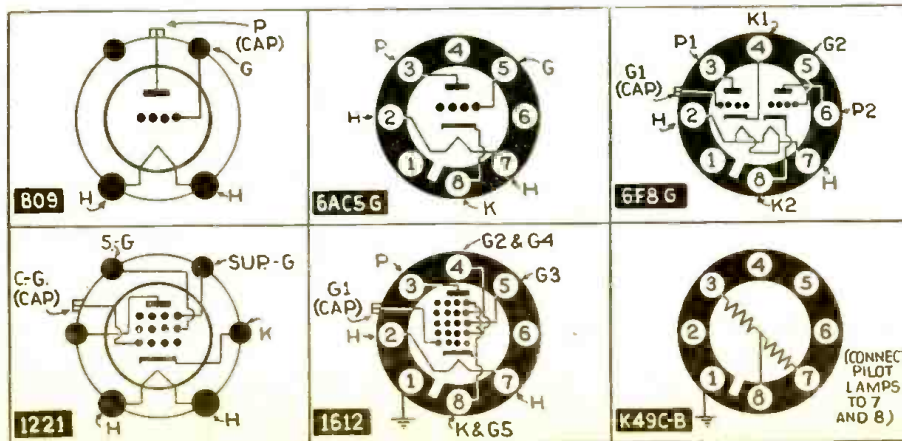

Fig. 1. Although the symbols are somewhat conventional the characteristics differ widely.
**809 R.F. Power Amplifier, Oscillator, and Class B Modulator Triode.** The 809 is a 3-electrode transmitting tube of the high- $\mu$  type for use as a (1) radio-frequency amplifier, (2) oscillator, or (3) class B modulator and (4) audio-frequency amplifier. (See Fig. A; terminal connections are given in Fig. 1.)
Fig. 1. Socko!—A bright young OM gets an idea on how to enliven the Ham-radio hobby. Soon the old cobwebs will be dusted away and the "rig" will be perking once more; but along new lines.